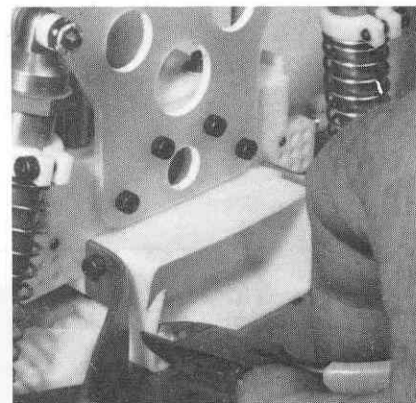

Fig. 162
□ **Fig. 162** It may be necessary to notch the bulkhead to clear the wires for a large servo.